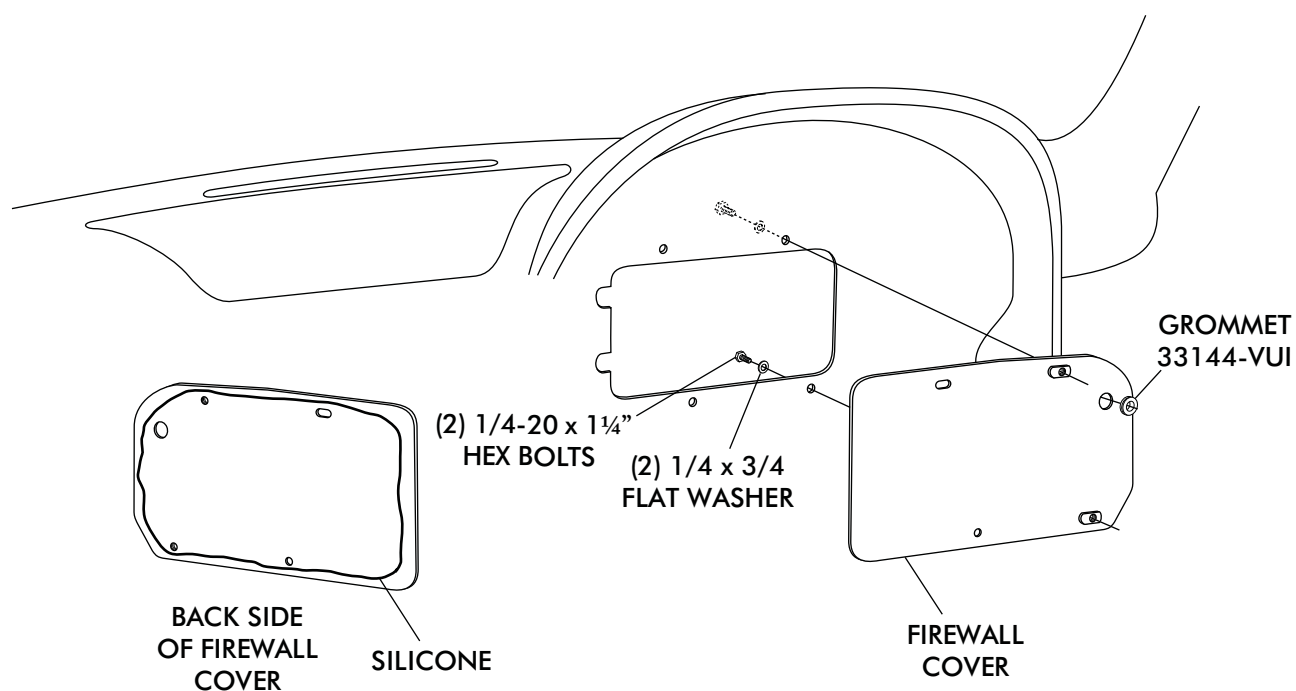

FIGURE 5
- ☐ APPLY A 1/4" BEAD OF SILICONE AROUND THE BACK SIDE OF THE FIREWALL COVER AS SHOWN IN FIGURE 5, BELOW.
- ☐ FROM INSIDE THE CAR, INSTALL FIREWALL COVER ON FIREWALL USING (2) 1/4-20 x 1 1/4" HEX BOLTS AND (2) FLAT WASHERS, SEE FIGURE 5, BELOW. (NOTE: USE SEAM SEALER TO FILL GAP BETWEEN COVER & LIP IN FIREWALL BEFORE PAINTING.)